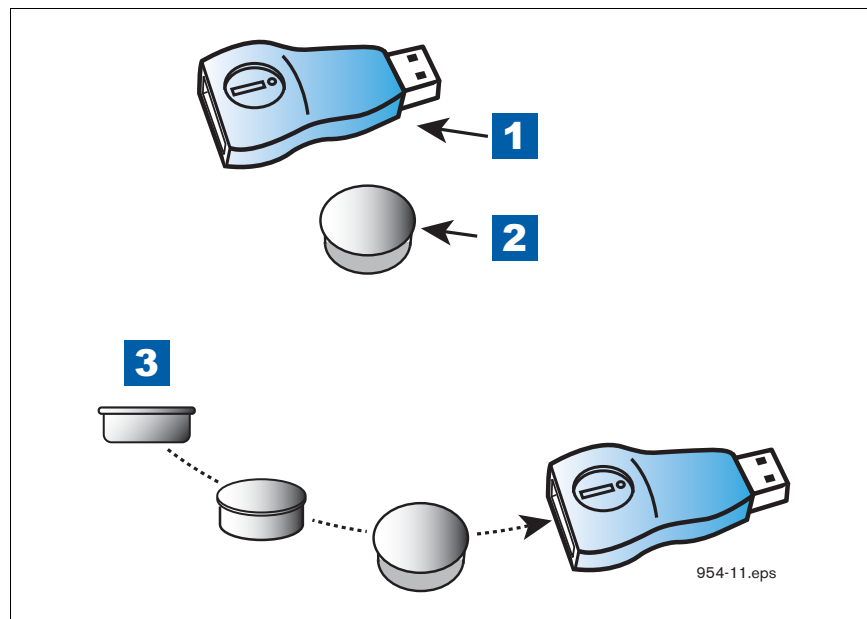

Figure 7. Inserting iButton Into USB Adapter
1. Get the USB Adapter and upgrade i-button from the upgrade kit. Remove the plastic end cap from the USB Adapter and Insert the i-button in the adapter as shown in Figure 7 below.
LEGEND FOR NUMBERED BOXES IN Figure 7